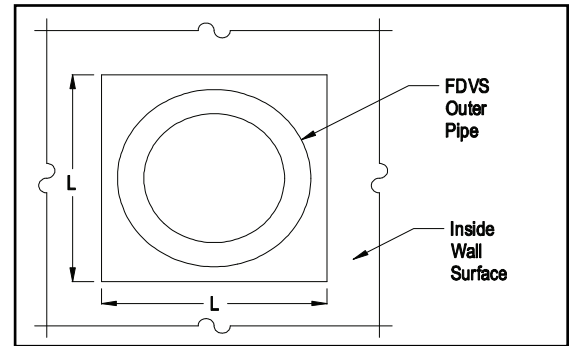
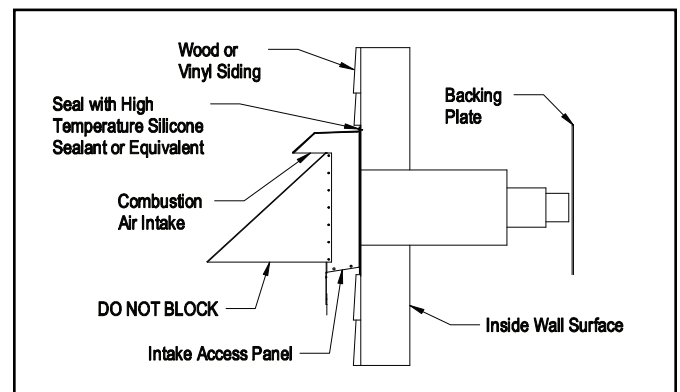

Figure 16. End View
Figure 17. Side View
4. After determining the location of the venting system termination (See Diagram A), cut a hole in the wall sized according to "L" dimension in Table 1. (See Figure 16)
5. Seal the back side of the base plate around the outer pipe of the vent termination with a bead of high temperature silicone sealant. (See Figure 17) Mount the vent termination through the wall, keeping the outer pipe centered in the hole. (See Figure 16) Fasten the vent termination to the outside wall with appropriate fasteners. Seal the edges
6. Mount the backing plate over the outer pipe. Fasten the backing plate to the inside wall with appropriate fasteners. (See Figure 17) DO NOT BLOCK the intake or exhaust openings, or the intake access panel on the vent termination body. Wood or vinyl siding should be cut so that the unit mounts directly on the wallboard to provide a stable support. If the siding is greater than 1/2" thick use a spacer plate or board behind the vent termination mounting plate. (See Figure 17)
Inspect all vent connections annually for looseness, evidence of corrosion, or flue gas leakage. Replace, seal, or tighten pipe connections if necessary. As part of the yearly maintenance schedule, remove the Intake Access Panel on the exterior of the FDVS vent termination (See Figure 17) and remove any debris or foreign material. Be sure to properly replace the panel.